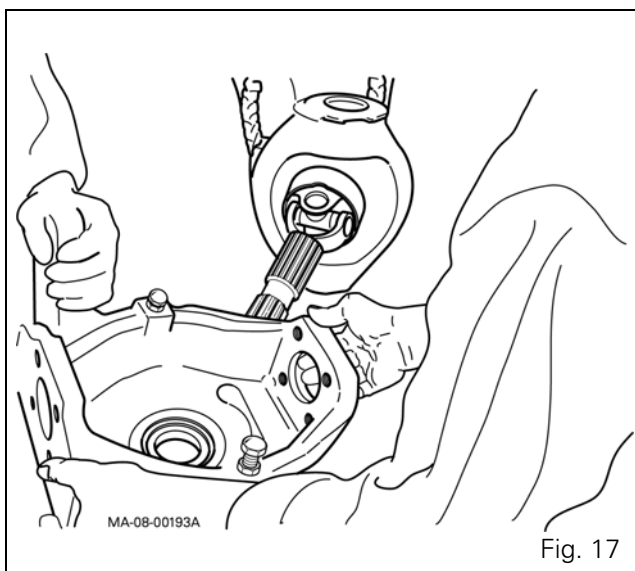

Fig. 17
17. Remove the swivel housing from the axle beam and the short shaft of the universal joint shaft (Fig. 17).